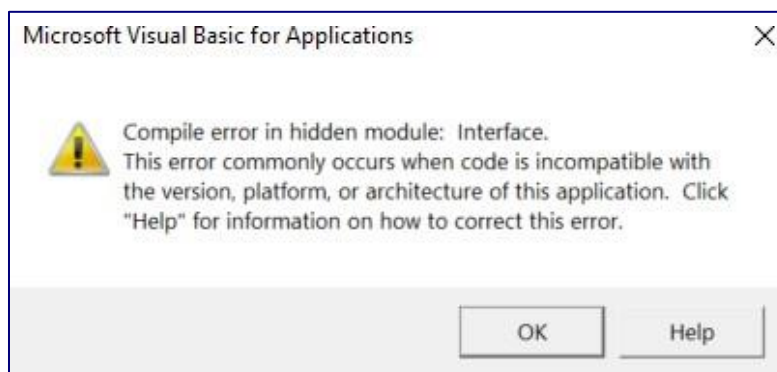

Figure 4. “Compile error in hidden module: Interface” error message
**8. After I enter my data into the 45ZCF-GREET file and click the “Generate LCA Results” button, Excel displays a pop-up that says, “Compile error in hidden module: Interface” (Figure 4). Why do I see this error message?**